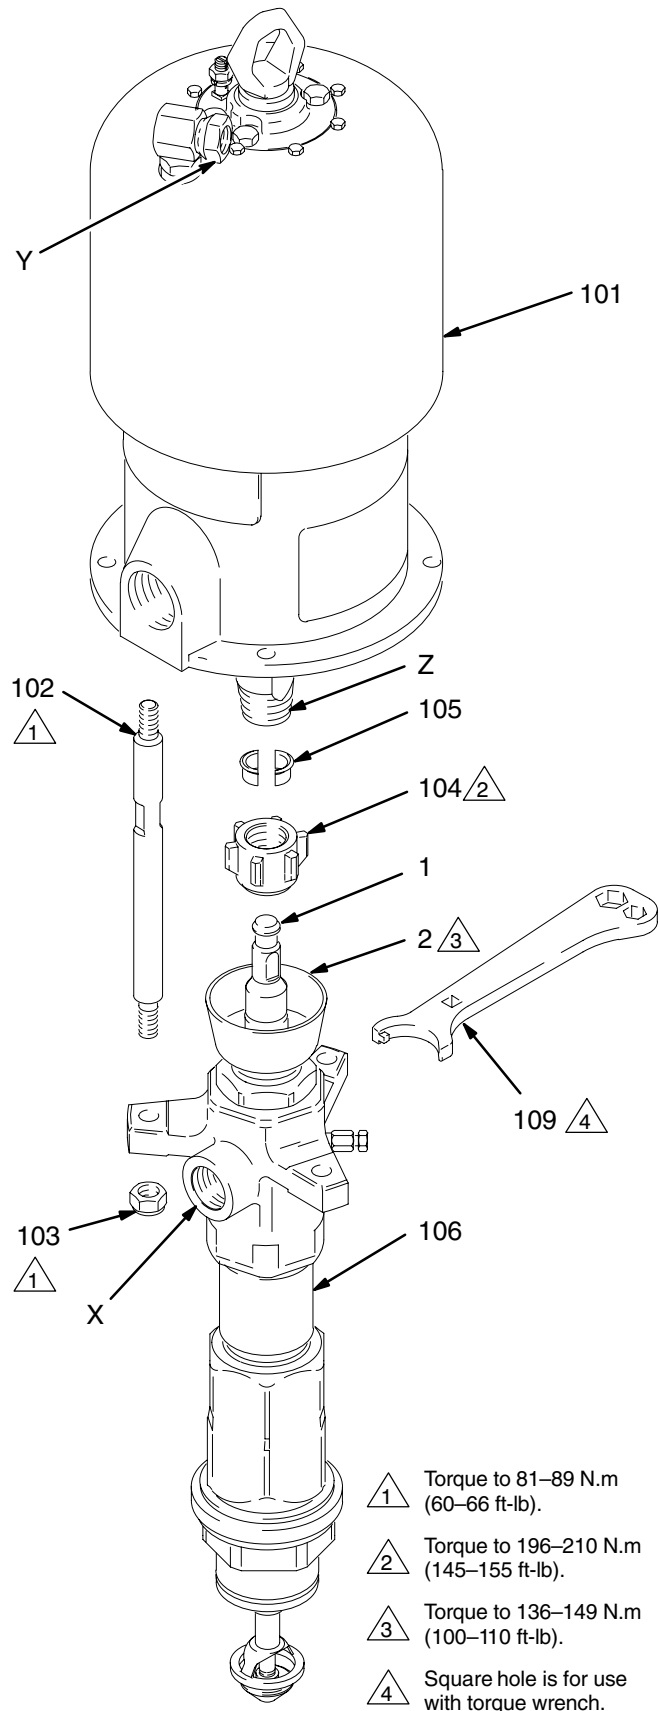

Fig. 4
5. Using an adjustable wrench (or a hammer and rod), unscrew the coupling nut (104) from the motor shaft (Z). Do not lose or drop the coupling collars (105). See Fig. 4.
6. Hold the tie rod flats with a wrench to keep the rods from turning. Unscrew the nuts (103) from the tie rods (102). Carefully remove the displacement pump (106) from the motor (101).
1. Make sure the coupling nut (104) and the coupling collars (105) are in place on the displacement rod (1). See Fig. 4.
2. Use at least two people to hold the displacement pump while another reconnects it to the motor (see the **CAUTION** on page 11). Orient the pump's fluid outlet (X) to the air inlet (Y) as was noted in step 4 under **Disconnecting the Displacement Pump**. Position the displacement pump (106) on the tie rods (102).
3. Screw the nuts (103) onto the tie rods (102) and torque to 81–89 N.m (60–66 ft-lb).
4. Screw the coupling nut onto the motor shaft loosely. Hold the motor shaft (Z) flats with a wrench to keep it from turning. Use an adjustable wrench to tighten the coupling nut. Torque to 196–210 N.m (145–155 ft-lb).
5. Torque the packing nut (2) to 136–149 N.m (100–110 ft-lb).
6. Reconnect all hoses. Reconnect the ground wire if it was disconnected. Fill the wet-cup (2) 1/3 full of Graco Throat Seal Liquid or compatible solvent.